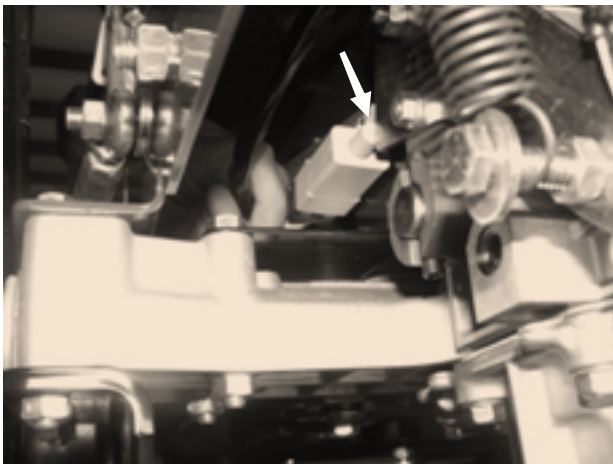

Figure 28
1. Unplug harness from interlock switch **Figure 28**.
Note: Make sure there is a small gap between the interlock switch button and hydro arm. This can be checked by using a .010 feeler gage **Figure 28**.